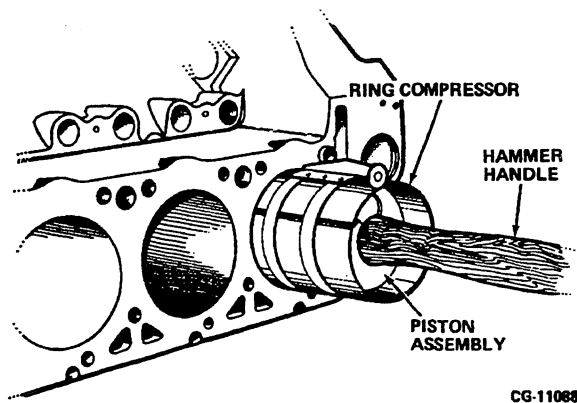

Figure 5.12. Installation of Piston in Cylinder Block
3. Insert the piston and rod into the piston ring compressor (with ring gaps spaced 120° apart). Carefully push down on the piston until it is in the cylinder. Avoid striking the cylinder wall and crankshaft. Figure 5.12. Repeat for each rod and piston assembly.